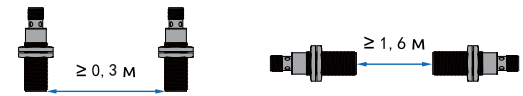

Figure 8 - Allowed distance operation between sensors
- Two nut mounts, included in the supplied set. The installation of the sensor should comply with the following requirements (allowable distances shown in Figure 8 below).